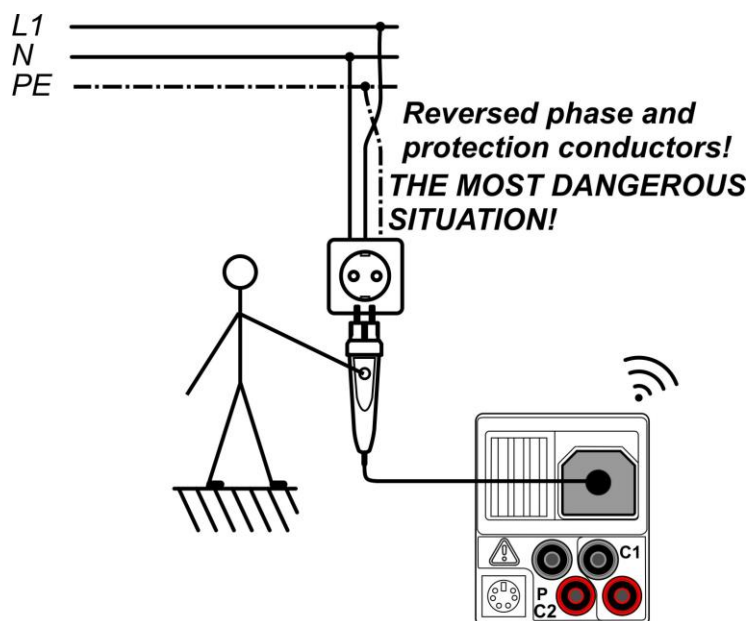

Figure 5.36: Reversed L and PE conductors (plug commander)
- ❑ **Connect** test leads to the item to be tested (see *figures 5.36 and 5.37*).